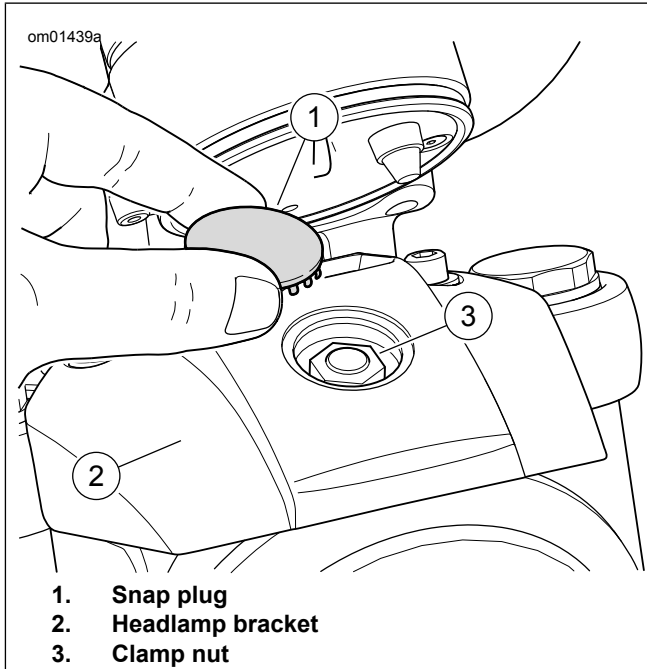

Figure 70. Headlamp Adjustment: XL883L, XL883N, XL1200T
1. See Figure 70. Remove snap plug (1) on top of headlamp bracket (2).
2. Loosen headlamp clamp nut (3).